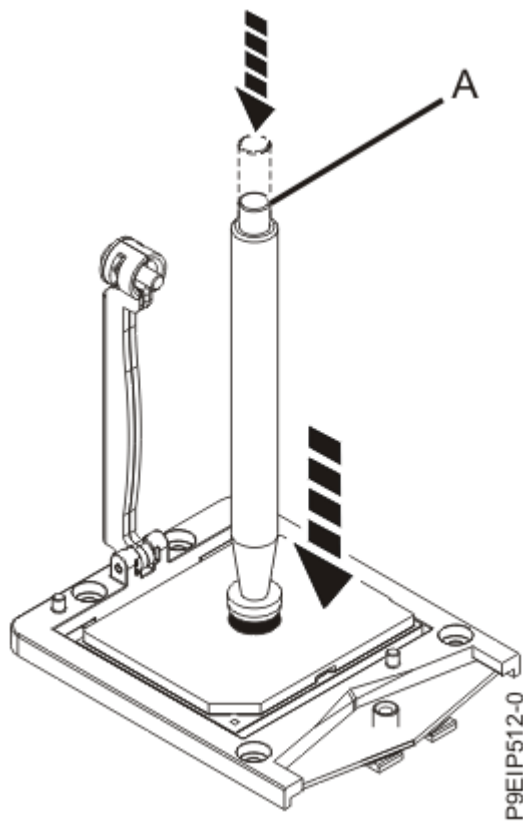

Figure 57. Lowering the removal tool onto the system processor module
3. Lower the vacuum pen tool onto the system processor module to install. Fully press the top of the pen (**A**) and hold the pen in the center of the system processor module as shown in Figure 57 on page 64. Release the top of the pen to fasten the pen onto the system processor module.